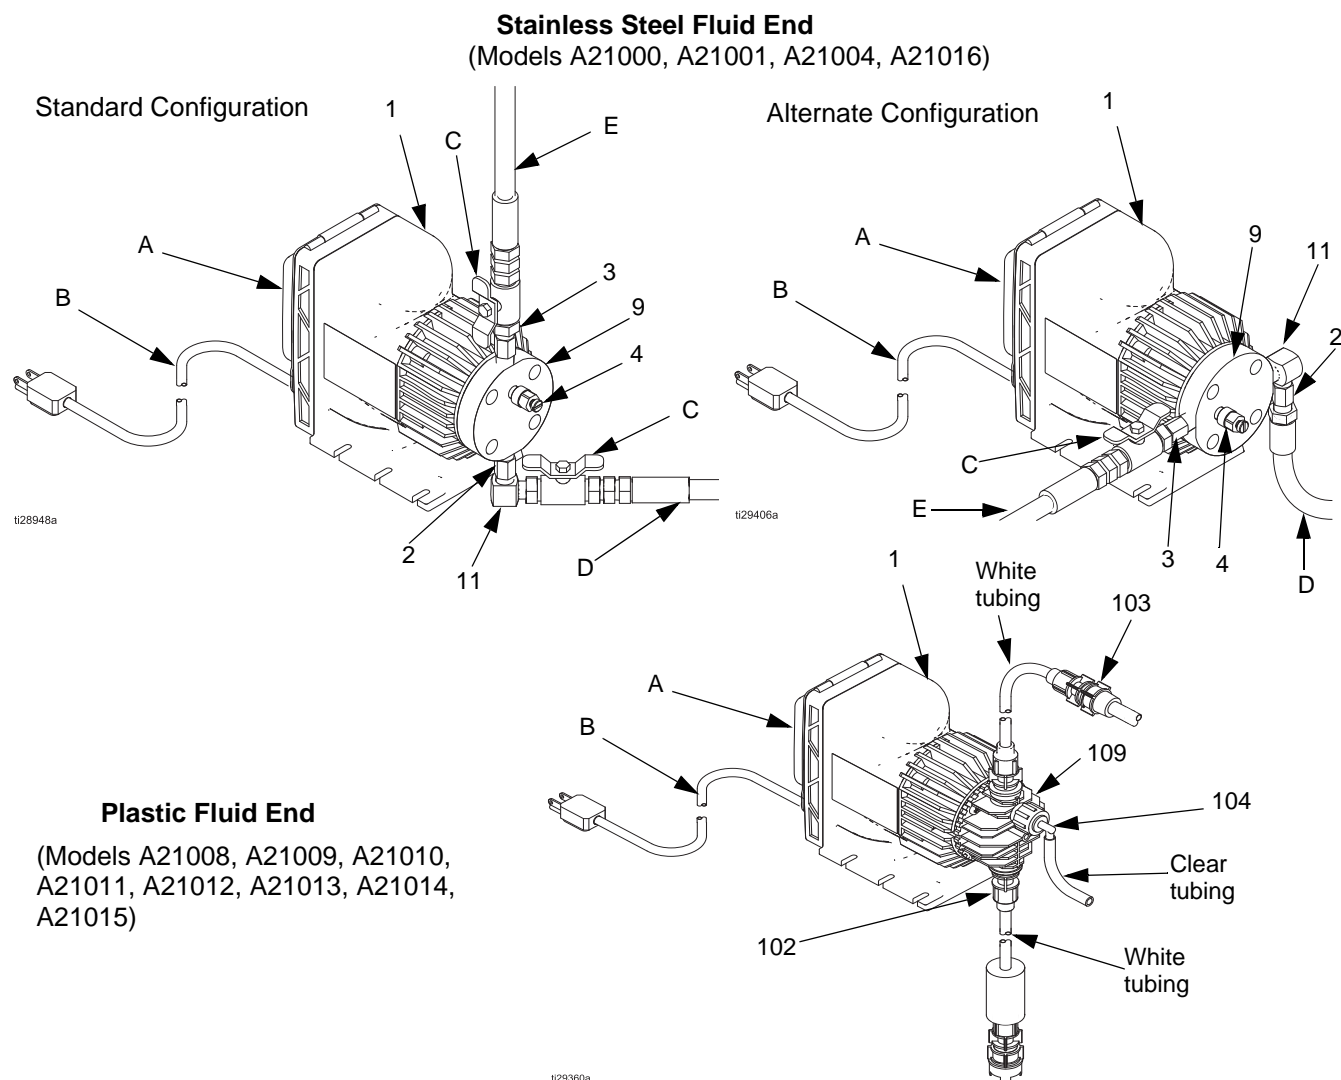
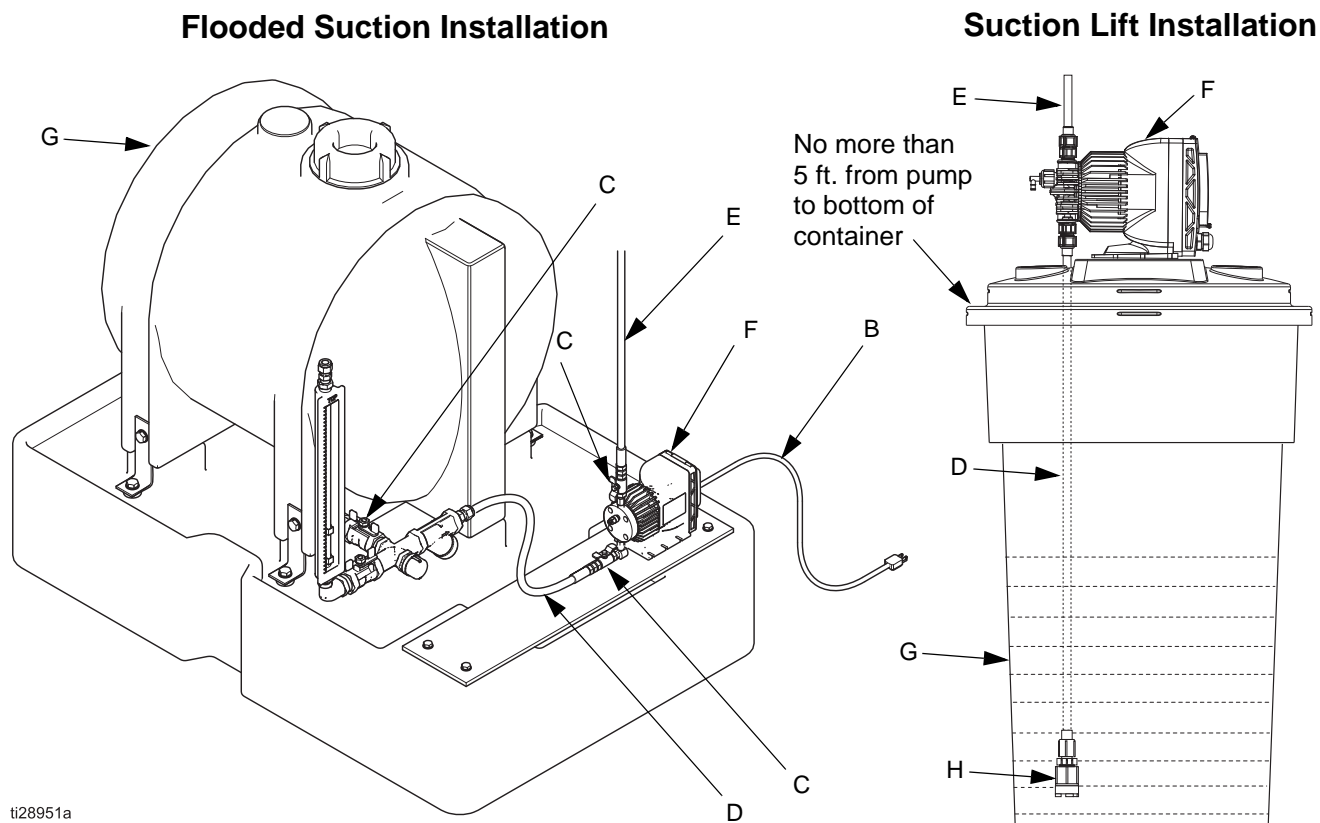

FIG. 2: Component Identification
FIG. 4: Typical Installation
The fluid end (9) of the pump, shown in FIG. 2, is set up to accommodate mounting of the pump next to the chemical supply container (G), shown in FIG. 4.
The pump is mounted on top of a chemical supply container, shown in FIG. 4, so that the distance from the pump to the bottom of the container does not exceed 5 ft.
FIG. 4 shows two examples of an installation with a Mongoose chemical metering pump. Your installation may differ from what is shown here. The Mongoose pump (F) and the attached power cord (B) are the only components in FIG. 4 supplied by Graco. All other components are supplied by customer.